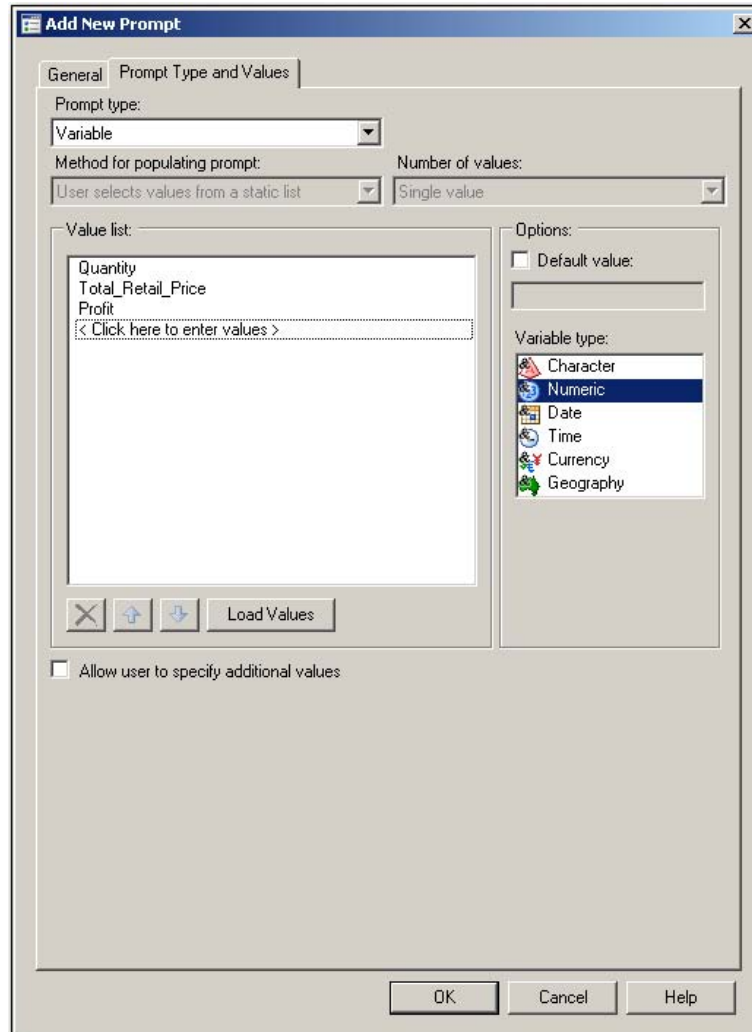

Figure 1. Add New Prompt
6. Hold down the **CTRL** key and select variables to highlight and delete (by hitting the X) leaving only Quantity, Total_Retail_Price, and Profit.² Your window should look like Figure 1. Click **OK** to create the prompt and exit the window.